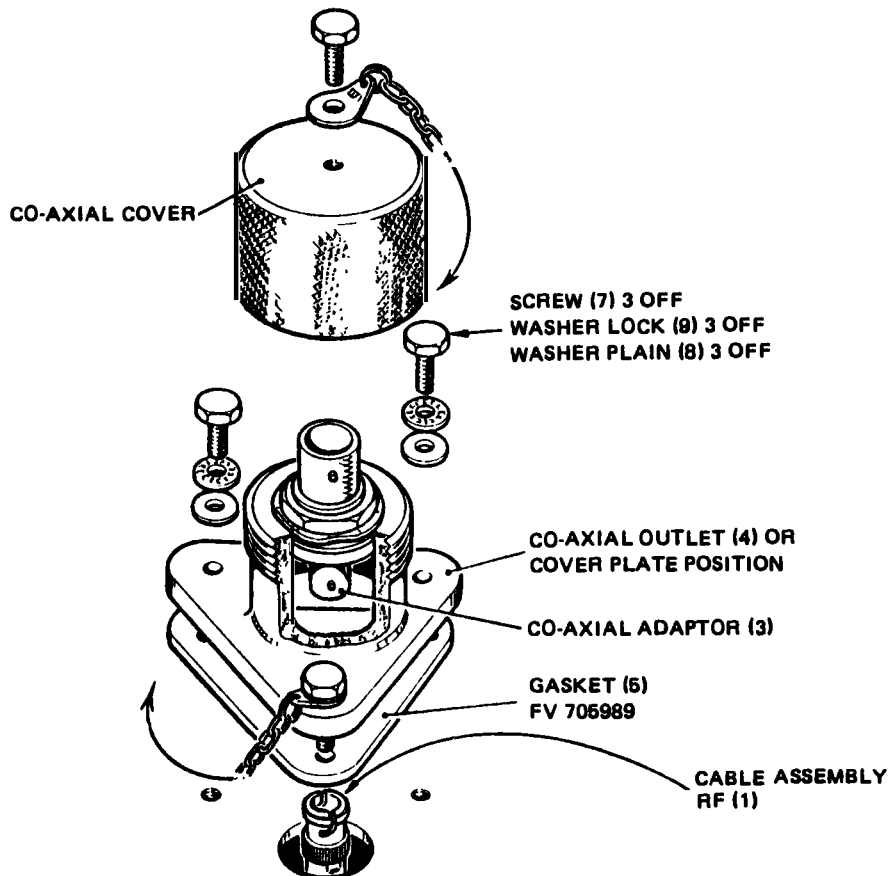

Fig 7 Co-axial outlet assembly diagram
A co-axial outlet position is provided, on MK II vehicles only, in the 'B' set position to allow a remote antenna to be used with the installation. Fit the co-axial on the forward r.h.s. exterior as per Fig 7 and Table 3.
13.4.3 Assemble a co-axial outlet as detailed in Fig 7.